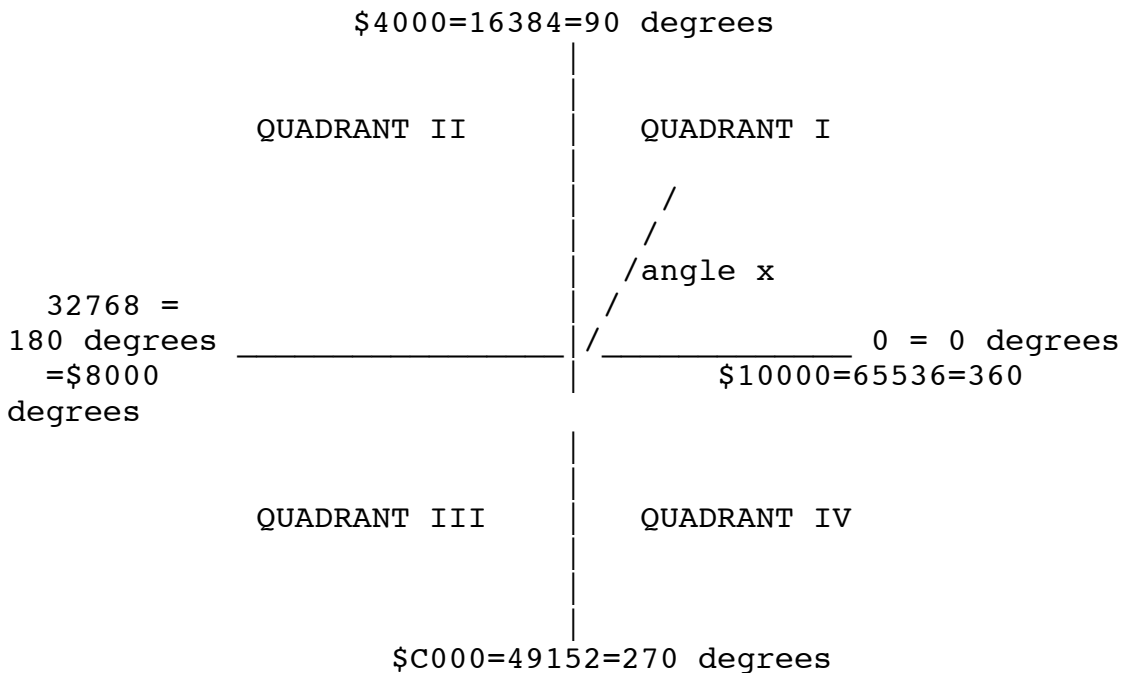
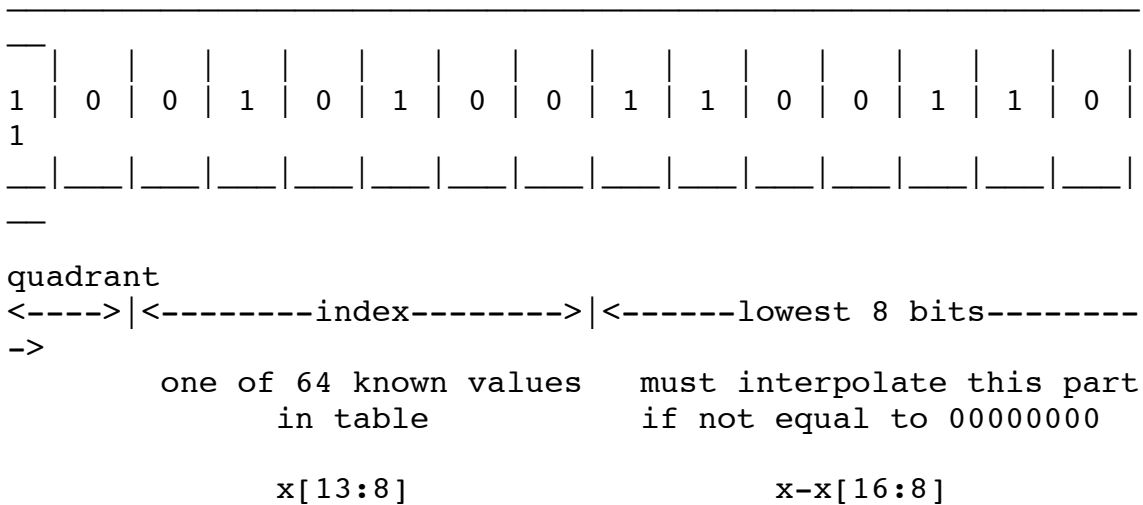

Figure 1 - Definition of angular measurements (Angular representation of axes are shown)
Figure 2 - Encoding of a 16 bit binary angle
**BACKGROUND:** Trigonometric functions are NOT part of microprocessor instruction sets; however, they are among the most useful functions for real world engineering applications such as robotic control. For the purposes of this lab we may imagine a robotic elbow which is free to rotate 360 degrees. A sensor, mounted on the robot elbow, measures the angle as a 16-bit binary number. This means that each 360 degree rotation of the elbow is divided into 65536 ( $2$  to the 16th power) discrete angular increments. The details of this angular numbering scheme are shown in Figure 1 where  $x$  is the digitally encoded angle:
Note that according to Figure 1 each angular increment is equal to  $360 \text{ degrees} / 65,536 = 5.5 \times 10^{-3} \text{ degrees} = 9.587 \times 10^{-5} \text{ radians}$ . The sensor's actual input to the computer is a 16-bit word; however, you do not have 65,536 words of memory to store these sine values nor do you know a fast algorithm to compute the sine function. So you are clever. The sine function values repeat themselves every 90 degrees so you need only store values for angles between 0 and 90 degrees. The sine for angles between 90 degrees and 360 degrees can be simply computed using such trig relationships as  $\sin(\phi) = \sin(90 \text{ degrees} - \phi)$ , etc. Storing the values for the sine of angles between 0 and 90 degrees still requires 16,384 values and is more memory than you have available. So you decide to store only 64 values of the sine function, i.e. you will store a value corresponding to every  $90 \text{ degrees} / 64 = 1.41 \text{ degrees}$ , and interpolate to find any intermediate values. Using this scheme and our previous definition of 65,636 angles we can now code a 16-bit angle according to the format shown in Figure 2.
Interpretation of Figure 2:
**PART 1 - The Sine Function:** The sine of a 16-bit angle (as described in Figure 2) will be computed from a table of 64 known evenly spaced angular values and interpolated (as necessary) to get an accurate value of  $\text{sine}(x)$ . Assuming your input angle is  $x$  in the format of Figure 2, you will estimate  $\text{sine}(x)$  according to the following formula:
$x = \$A000 - \$8000 = \$2000 = 00\ 100000\ 00000000$  The value \$8000 is the hex equivalent of 32,768 or 180 degrees in Figure 1. This angle is now a first quadrant angle and can be computed as we have done the previous examples.